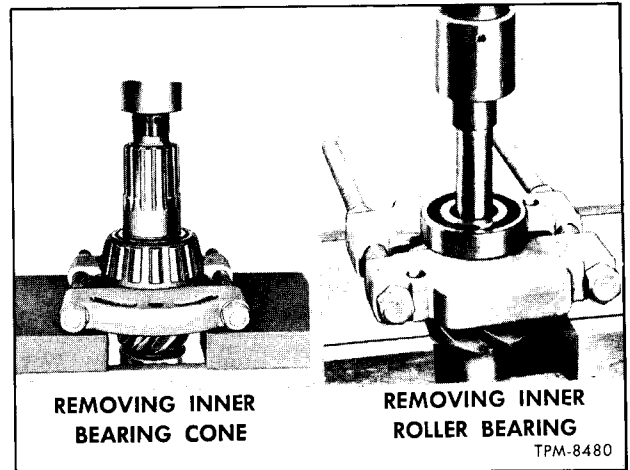

Figure 8—Pinion Bearing Removal
1. Remove nuts (20) and lock washers (19) which secure pinion cage (30) to differential carrier (16). Tap pinion cage to loosen and remove four tapered dowels (18).
2. Install two puller screws (1/2"-13 x 1-1/2") and tighten alternately and evenly to pull cage (30) out of carrier. Remove shim pack (17) from pinion cage studs (21). Tie shims (17) together so same shim pack may be used at reassembly.
3. Remove retainer ring (38) which secures inner bearing (37) on drive pinion (36); then remove inner bearing from drive pinion using universal puller (J-8176) and arbor press in manner illustrated in figure 8.
4. Clamp pinion in vise equipped with soft jaw plates. Remove cotter pin, nut (25), and washer (26) from drive pinion (36).
5. Using suitable puller, remove propeller shaft companion flange (27) from drive pinion (36).
6. Remove cap screws and lock washers from pinion oil seal retainer (23), then remove retainer and gasket.
7. Place cage and drive pinion assembly in an arbor press and press drive pinion (36) out of flange (27) and pinion cage. Outer bearing (30) will remain in pinion cage.
8. Remove bearing adjusting spacer (33) from drive pinion (36) and tag for reassembly reference.
9. If necessary, inner bearing cone (31) can be removed from pinion with universal puller (J-8176) and arbor press as illustrated in figure 8.